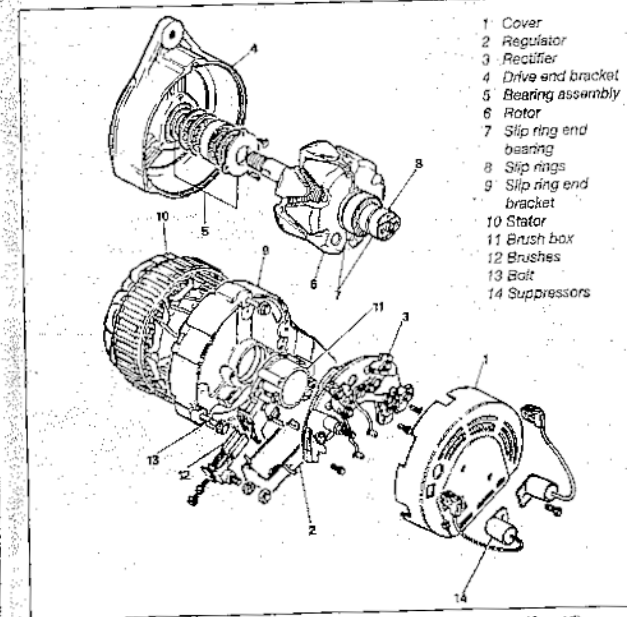

Fig. 13.160 Exploded view of the Lucas A133/83 alternator (Sec 15)
- 12 Brush renewal is similar to that described in Chapter 10, but refer to the exploded diagram in Fig. 13.160.